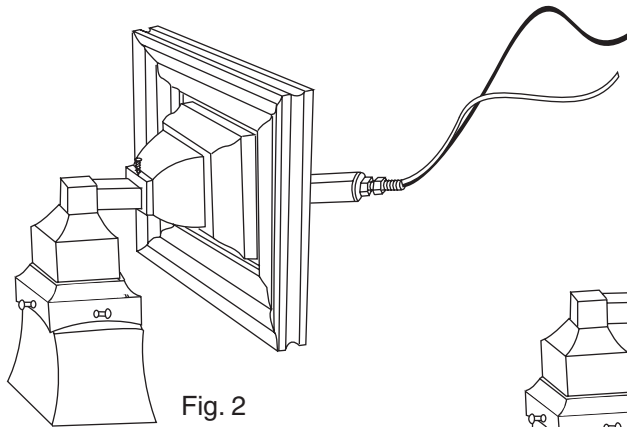

Fig. 2
2. Before attaching the light to the metal cross bar (A) slide the sconce frame over the column so it sits as shown in Fig. 2
Fig. 2 a